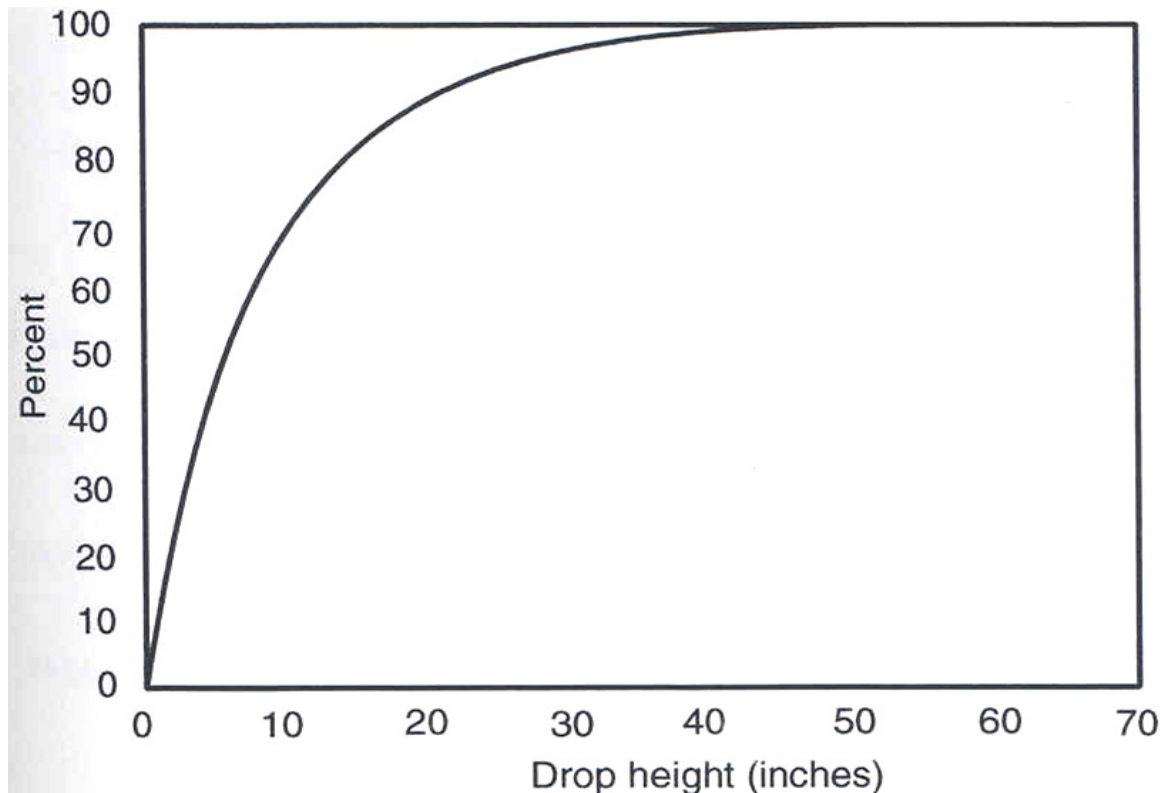

Figure 12.1 Cumulative percentage and drop height in next day air parcel delivery for United States Postal Service
- typical manual handling patterns (Figure 12.1)(the basic predictability of package handling).